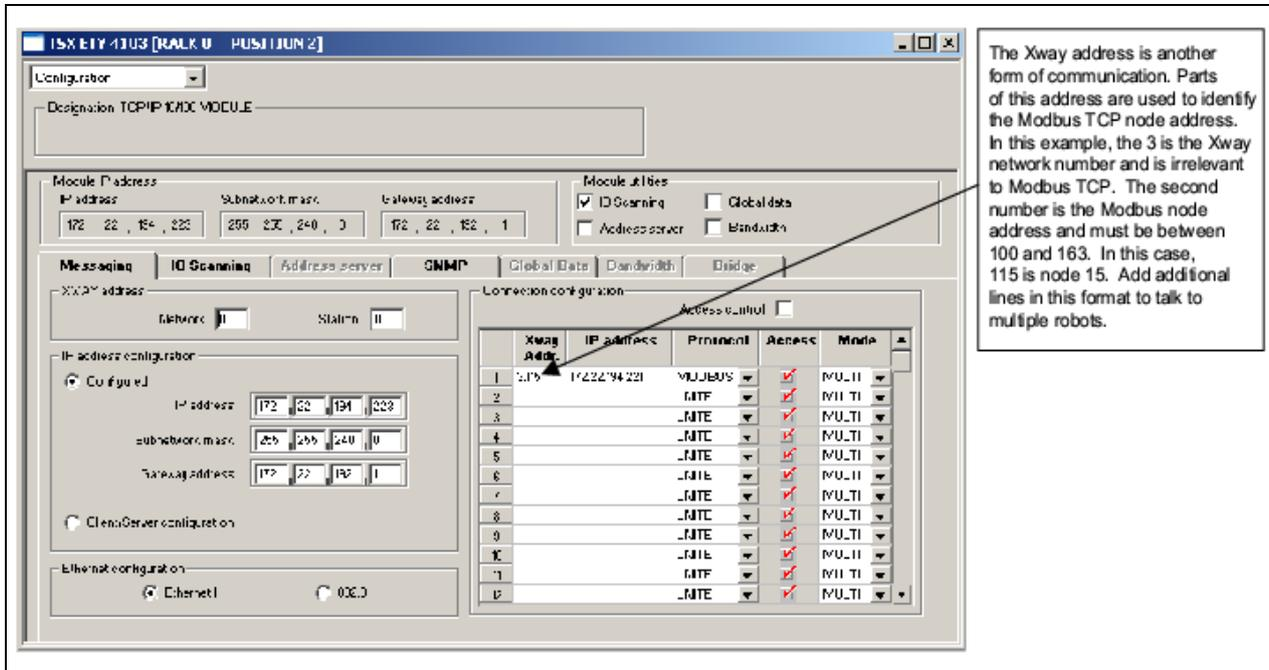

Fig. 3.2 Xway address
- Configure the Xway address for your connection in the Connection Configuration section. See Fig. 3.2.